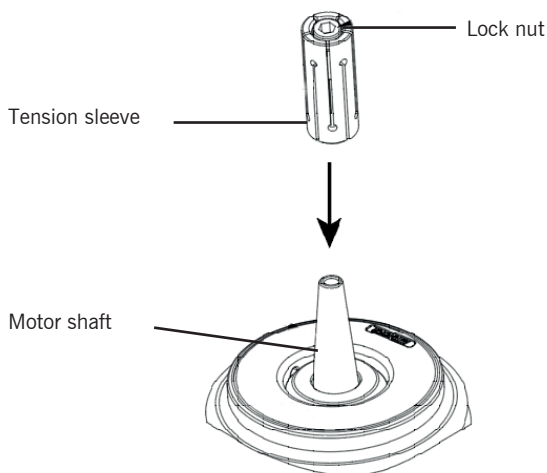
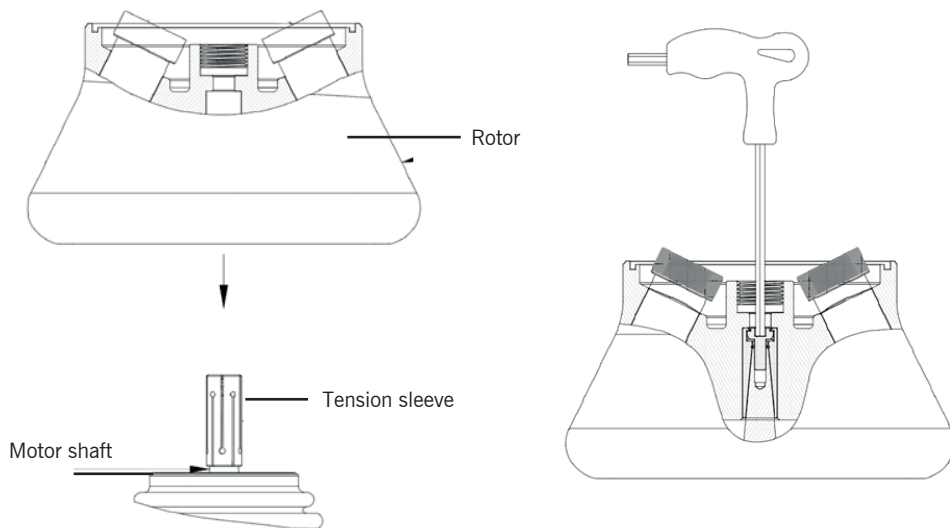

Figure 5: Schematic diagram of installing angle rotor
Figure 6: Schematic diagram of installing angle rotor
The steps for installing the rotor are as follows (as shown in Fig. 5 and Fig. 6):
- Install the tension sleeve on the motor shaft as shown in Fig. 5, and turn it clockwise for 5 turns with the Allen wrench (Note: it must only be turned for 5 turns, otherwise the rotor will not be installed on the tension sleeve).
- Prepare the rotor you want to use at the position shown in Figure 6. Hold the rotor with both hands, align the central hole of the rotor with the motor spindle, put it down vertically, place it at the bottom of the shaft, release both hands, and then press the rotor down with your hands.